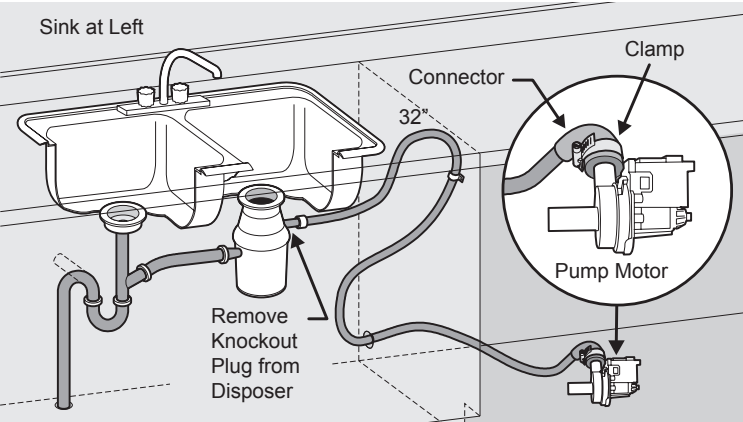

Figure 12
4. Be sure unit does not rest on drain hose. It should be free of electrical components and door springs. Do not cut corrugated drain hose. Pull excess through cabinet and place under sink. Make sure hose does not come in contact with any sharp edges. **See Figure 12.**